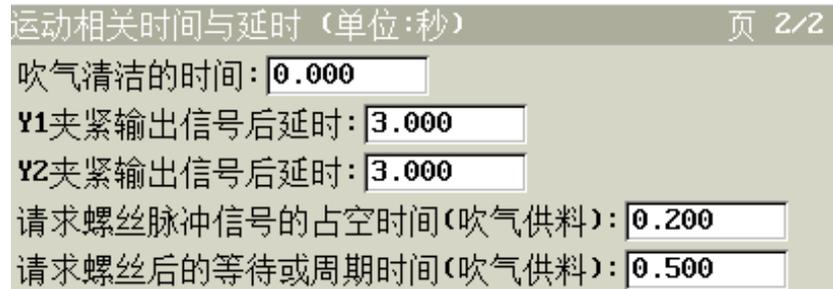

Figure 0 .13" Motion Correlation Time and Delay window, page 2
1.13. Figure 0 .13 Figure 1.13